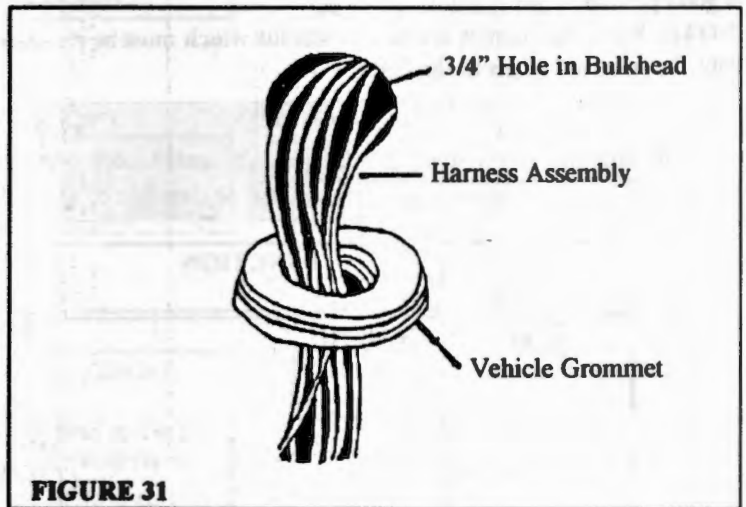

FIGURE 31
3. Harness Assembly needs a 3/4" hole to pass through bulkhead. You may find one nearby such as the speedometer cable hole or a small one you can file larger. If you find the right size hole in the right place, remove rubber grommet. If not, drill, saw, or punch a 3/4" hole in bulkhead. A hole a couple of inches to the left or slightly higher than the steering column is usually a good place. (Figure 31)